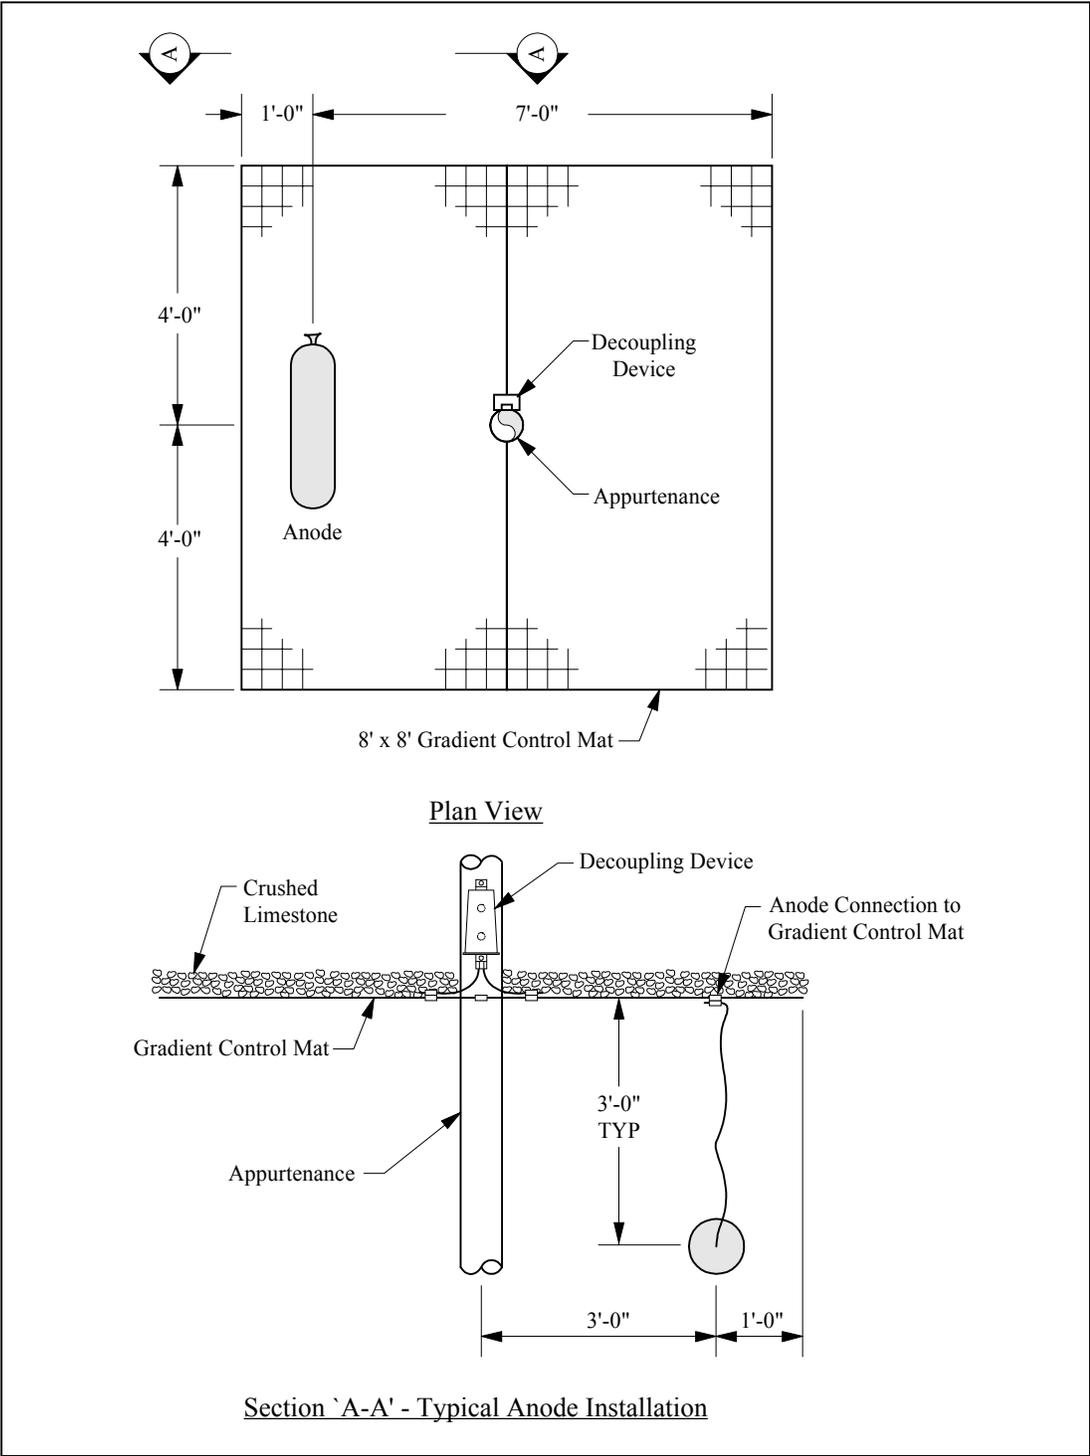

FIGURE 1 • Square Gradient Control Mat with One Anode
- 3.1 The anodes should be installed horizontally approximately 3 ft. below the mat, as indicated in Figures 1 to 4.